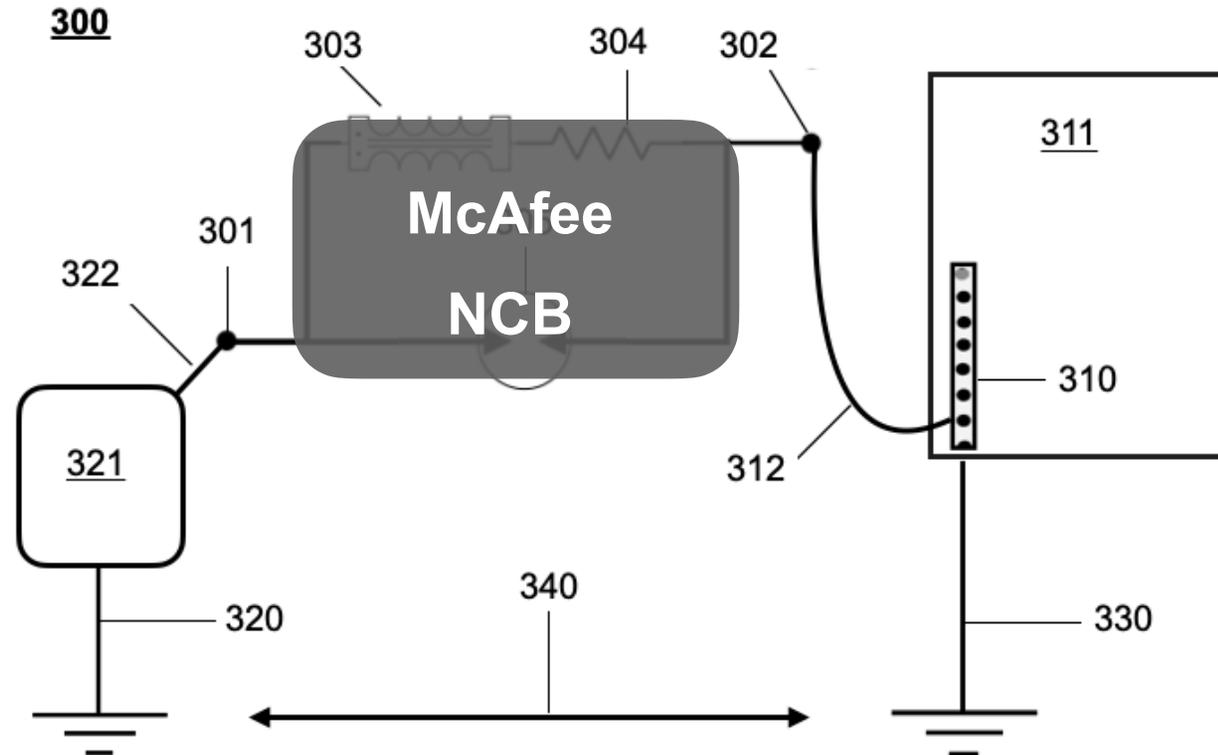

FIG. 3
- 3) **Outdoors**: Fig. 3. On any equipment grounding conductor that has circuit breaker protection, add the NCB in line/series. Can be install in either sub-panels or appliance cabinets that still have current after all the repair work is done.
- a) Well pump (321)